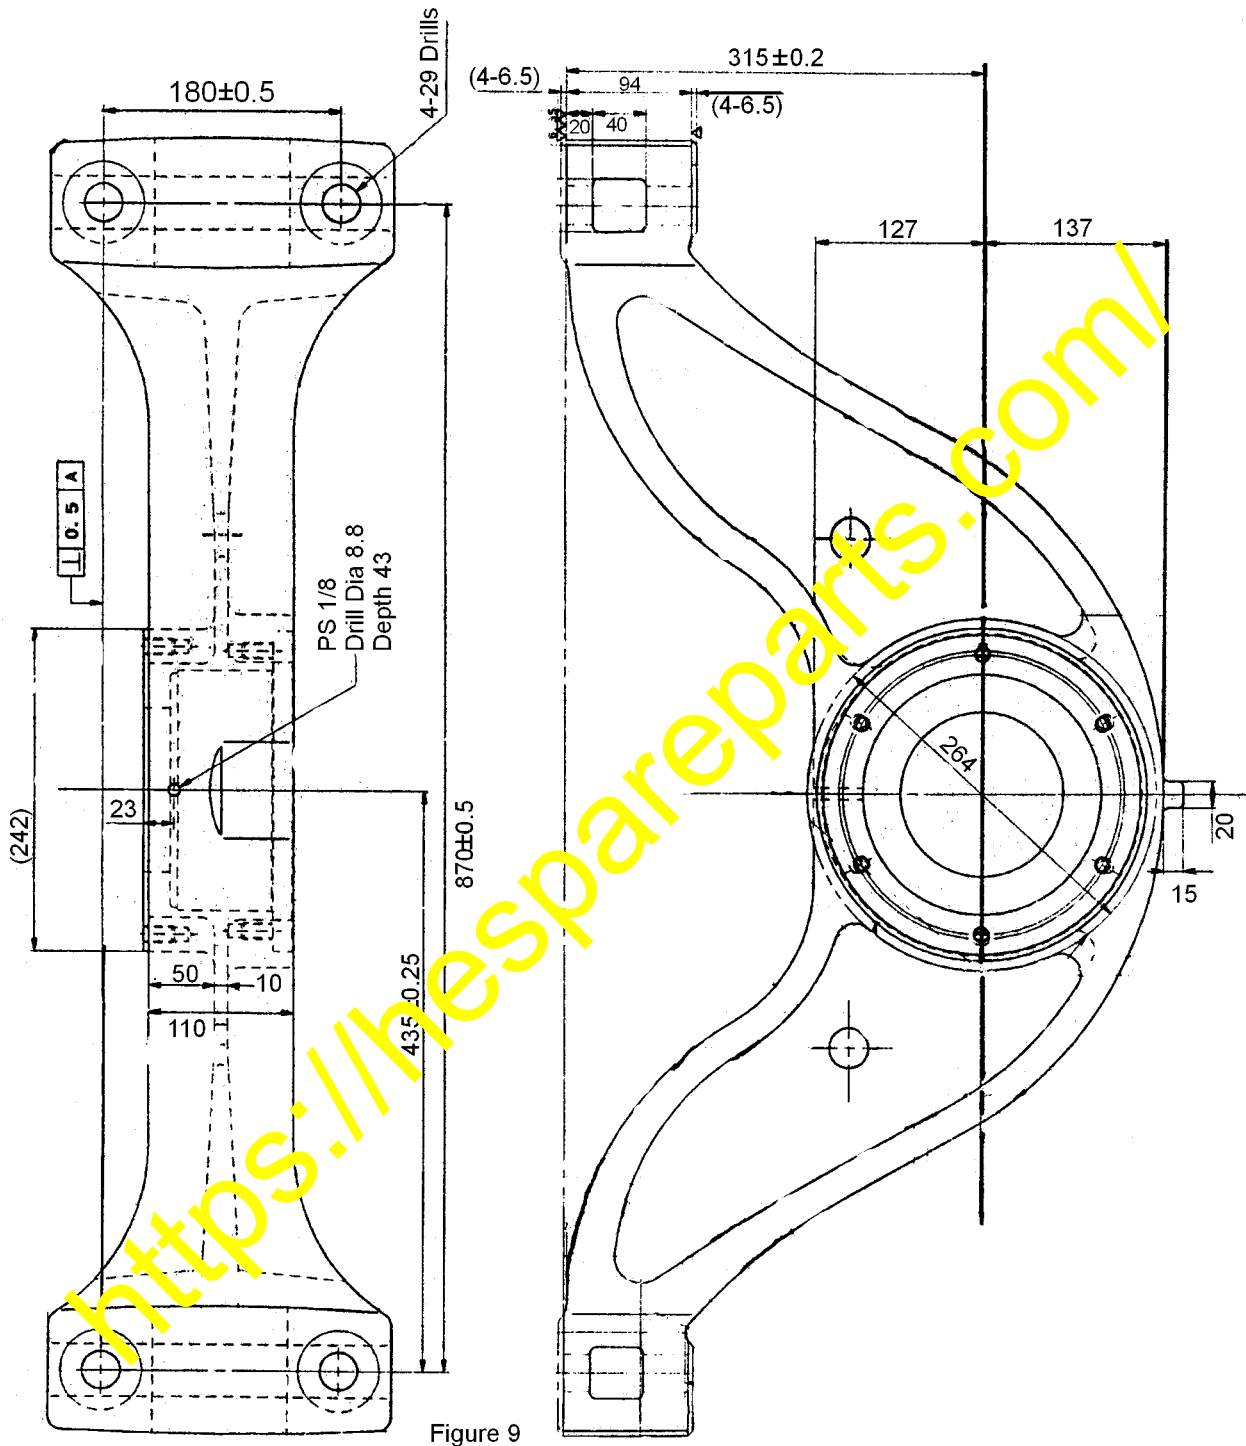

Figure 9
- c. Verify that the rear axle back trunnion critical dimensions are in accordance with (Figure 9). If the dimensions are not met, rebuild or replace the rear axle rear support.